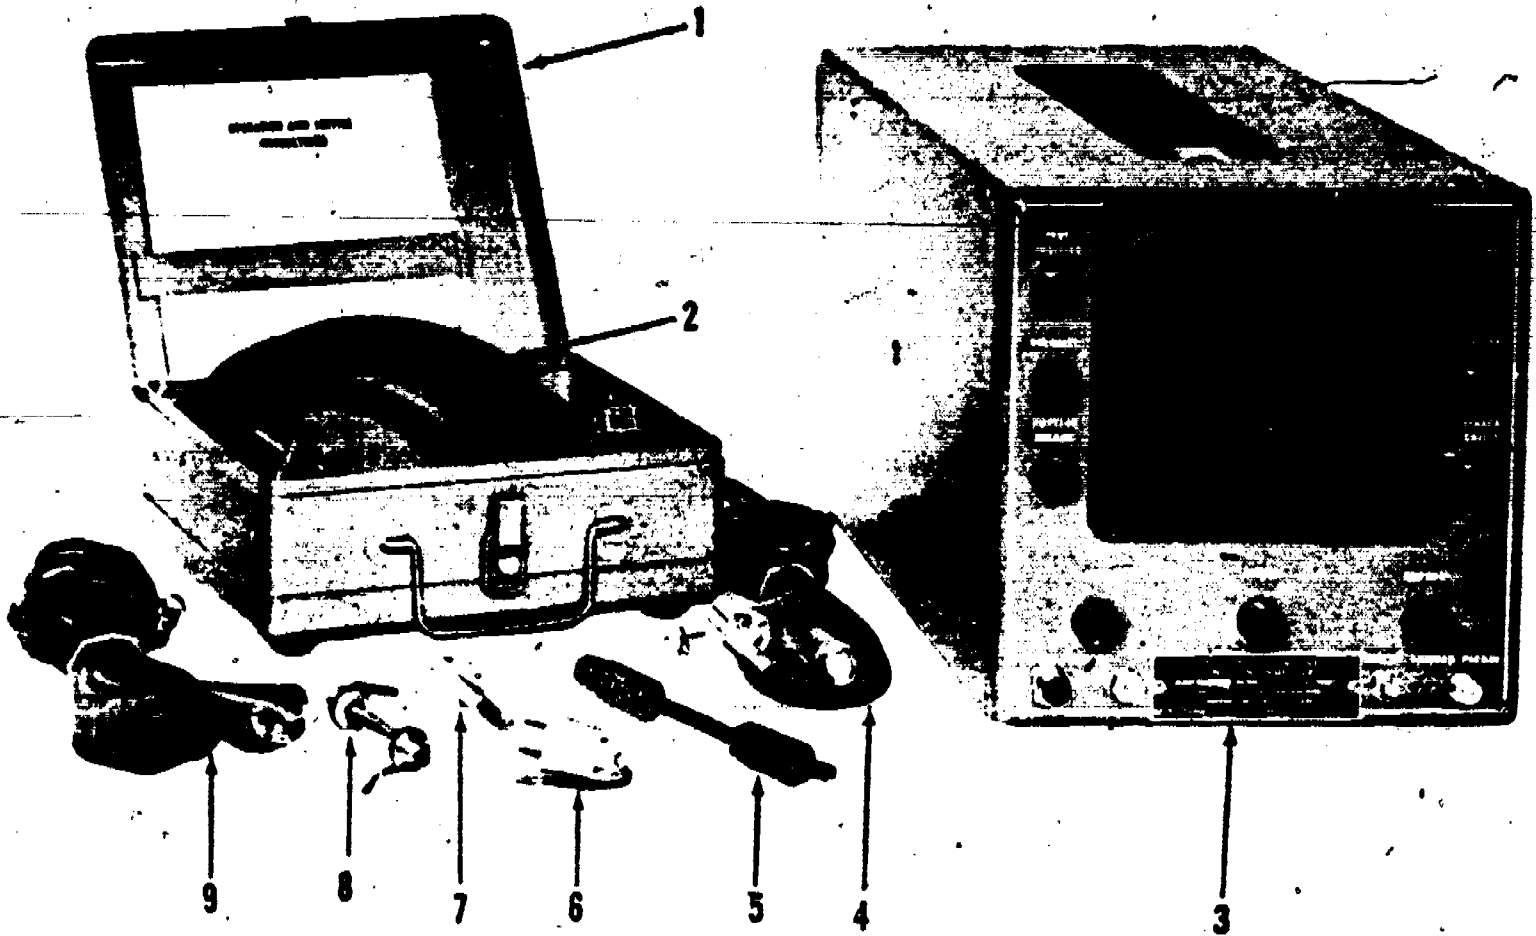
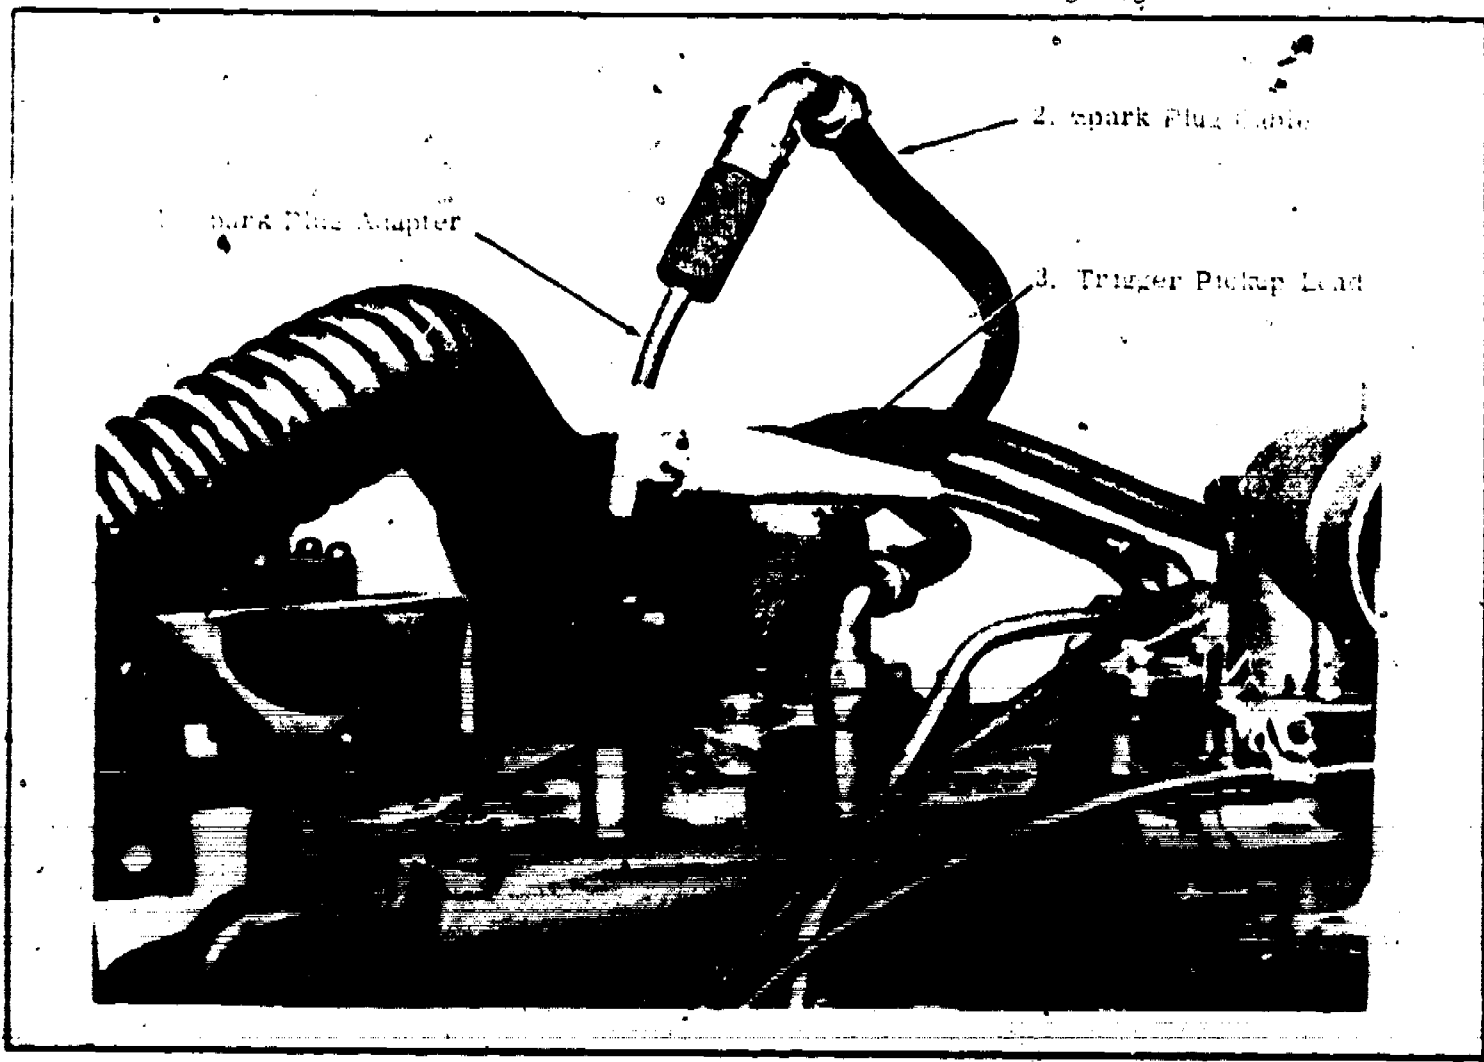

Figure 1-1. Portable Engine Ignition Analyzer Oscilloscope Model No. SS-5
Figure 2-2. Trigger Pickup Lead and Adapter Connections
1-2. This manual contains operation and maintenance instructions and a repair parts list for the Portable Engine Ignition Analyzer-Oscilloscope, Sun Electric Corporation Model No. SS-5. This equipment will be referred to throughout this manual as the oscilloscope. (See figure 1-1).
1-5. The oscilloscope, including the accessory kit, (see figure 1-1) is a self-contained unit requiring only external electrical power for operation. The oscilloscope operates on a power source of 115 volts, 60 cycle, single phase current.
a. Attach power cord (2, figure 1-1) to the rear of the oscilloscope case. Insert other end of power cord into a 115v ac power supply.
- b. Install primary pick-up adapter, (7, figure 1-1).
- d. Connect black pattern pick-up lead (9, figure 1-1) to a suitable engine ground.
f. Attach trigger adapter, (5, figure 1-1) to timing cylinder spark plug.
h. Connect trigger pick-up lead (4, figure 1-1) of the oscilloscope to the trigger pick-up adapter as shown in figure 2-2.